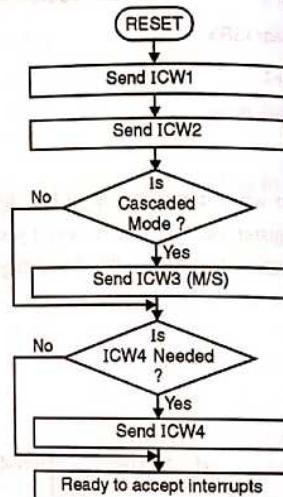

Fig. 8.6.1 : 8259A Initialization sequence
- Fig. 8.6.1 shows the initialisation sequence.